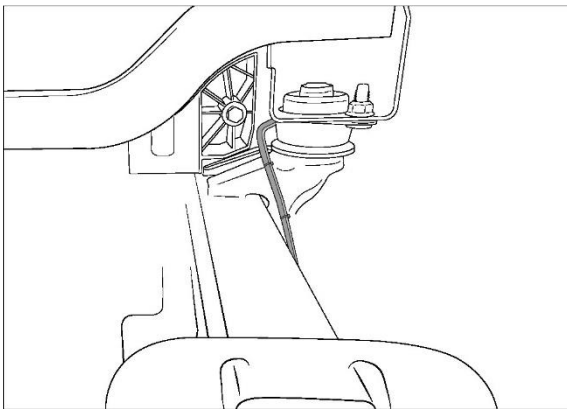
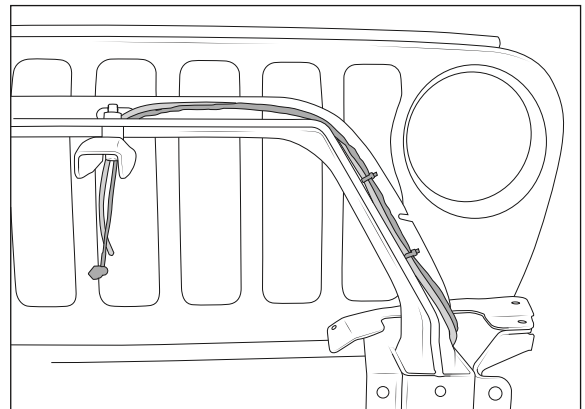

Figure 15
Figure 16
5. Run both washer hose and wiring harness along the frame to the bumper hoop (fig. 15). Loosely attach harness and hose to the bumper hoop using the provided Christmas tree wire ties on the holes in the hoop. Route the harness and hose through the large slot in the back center of the hoop. Ensure the connector at the camera end has enough slack to reach the camera once mounted into the bracket. Route the chassis harness inboard over the support bracket behind the radiator, loosely wire tie it to the power steering line, and make sure it's routed properly and with enough slack to allow it to reattach at chassis side connector. Reconnect, then tighten and trim the wire ties (fig. 16).